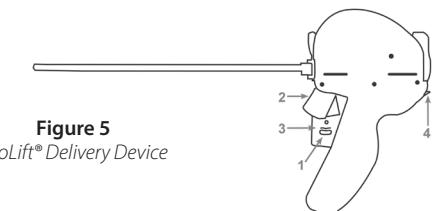

Figure 5
3.1 Unlock the Needle Safety Lock (**Step 1, Figure 5**).
3.2 Lightly depress the Needle Trigger to deploy the needle (**Step 2, Figure 5**).
3.3 After the needle is fully deployed, depress the Retraction Lever (**Step 3, Figure 5**) fully to retract needle and deploy Capsular Tab. Squeeze the Retraction Lever again to ensure complete retraction. By this action, the Capsular Tab is delivered from the tip of the extended needle and is then tensioned back towards the prostatic capsule until it seats on the capsular surface. The Needle is now in the retracted (not exposed) position and is contained within the Delivery Device. If complete retraction is not achieved, follow Step 5.1 to manually release the Retraction Lever.
⚠️ CAUTION: Avoid contact with the Urethral Release button when depressing the Retraction Lever. Contact with the Urethral Release button (**Step 4, Figure 5**) while depressing the Retraction Lever may result in inadvertent deployment of the Urethral End-Piece and unintentionally cutting the suture.